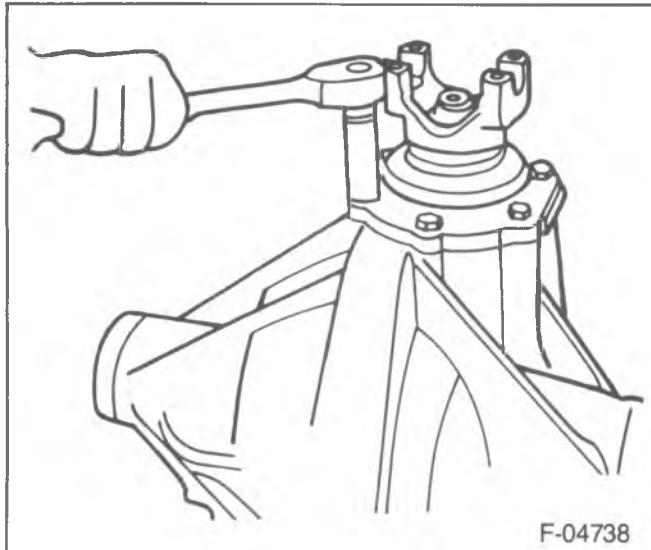

Figure 78—Installing the Pinion Cage
2. Pinion bearing shims (11) to the pinion cage.
3. The pinion cage (10) to the axle housing (figure 78).
4. Cage bolts (7).